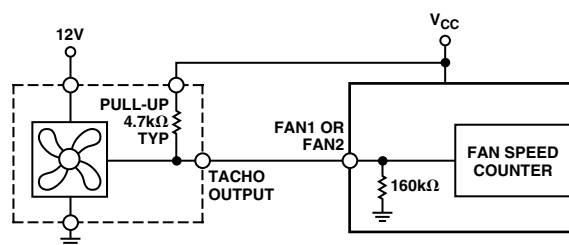

Figure 17a. Fan with Tach. Pull-Up to $+V_{CC}$
1. All of these circuits will provide an output range from zero to almost 12 V, apart from Figure 17a which loses the base-emitter voltage drop of Q1 due to the emitter-follower configuration.
Figures 17a to 17d show circuits for most common fan tach outputs.
If the fan tach output has a resistive pull-up to V_{CC} it can be directly connected to the fan input, as shown in Figure 17a.